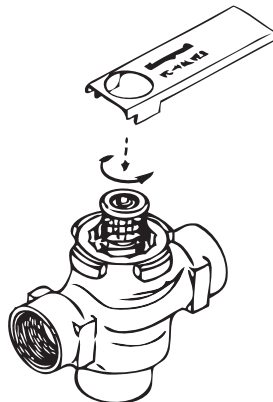

Fig. 2.
5. To replace a cartridge, isolate flow to the valve using installed shut off valves or other service equipment designed for this purpose. Remove old cartridge with 40007029-002 wrench supplied with the replacement unit (See Fig. 2). It may be necessary to use pliers or other tools to remove the old cartridge due to calcium or dirt buildup in the valve body.